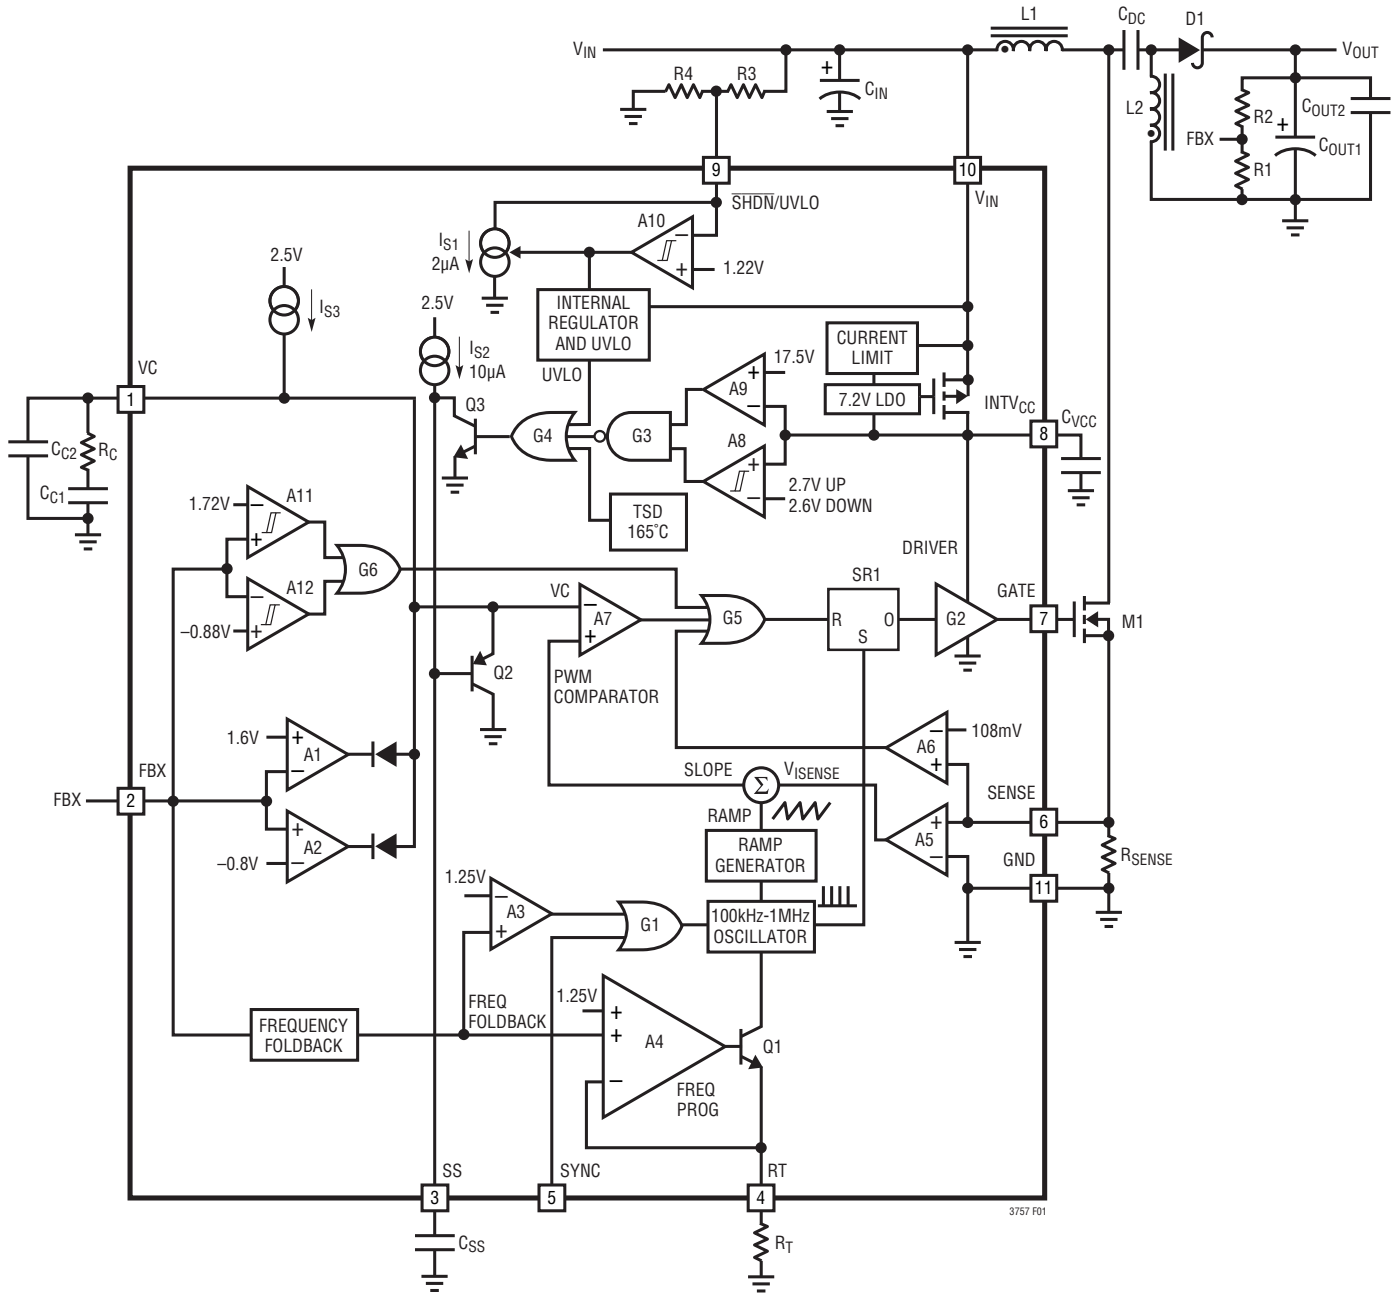

Figure 1. LT3757 Block Diagram Working as a SEPIC Converter
The LT3757 uses a fixed frequency, current mode control scheme to provide excellent line and load regulation. Operation can be best understood by referring to the Block Diagram in Figure 1.
The LT3757 is capable of generating either positive or negative output voltage with a single FBX pin. It can be configured as a boost, flyback or SEPIC converter to generate positive output voltage, or as an inverting converter to generate negative output voltage. When configured as a SEPIC converter, as shown in Figure 1, the FBX pin is pulled up to the internal bias voltage of 1.6V by a voltage divider (R1 and R2) connected from  $V_{OUT}$  to GND. Comparator A2 becomes inactive and comparator A1 performs the inverting amplification from FBX to VC. When the LT3757 is in an inverting configuration, the FBX pin
The purpose of this current is to allow the user to program the rising hysteresis. The Block Diagram of the comparator and the external resistors is shown in Figure 1. The typical falling threshold voltage and rising threshold voltage can be calculated by the following equations:
An internal, low dropout (LDO) voltage regulator produces the 7.2V INTVCC supply which powers the gate driver, as shown in Figure 1. If a low input voltage operation is expected (e.g., supplying power from a lithium-ion battery or a 3.3V logic supply), low threshold MOSFETs should be used. The LT3757 contains an undervoltage lockout comparator A8 and an overvoltage lockout comparator A9 for the INTVCC supply. The INTVCC undervoltage (UV) threshold is 2.7V (typical), with 100mV hysteresis, to ensure that the MOSFETs have sufficient gate drive voltage before turning on. The logic circuitry within the LT3757 is also powered from the internal INTVCC supply.
The choice of operating frequency may be determined by on-chip power dissipation, otherwise it is a trade-off between efficiency and component size. Low frequency operation improves efficiency by reducing gate drive current and MOSFET and diode switching losses. However, lower frequency operation requires a physically larger inductor. Switching frequency also has implications for loop compensation. The LT3757 uses a constant-frequency architecture that can be programmed over a 100kHz to 1000kHz range with a single external resistor from the RT pin to ground, as shown in Figure 1. The RT pin must have an external resistor to GND for proper operation of the LT3757. A table for selecting the value of RT for a given operating frequency is shown in Table 1.
The output voltage ( $V_{OUT}$ ) is set by a resistor divider, as shown in Figure 1. The positive and negative  $V_{OUT}$  are set by the following equations:
The LT3757 addresses this mechanism with the SS pin. As shown in Figure 1, the SS pin reduces the power MOSFET current by pulling down the VC pin through Q2. In this way the SS allows the output capacitor to charge gradually toward its final value while limiting the start-up peak currents. The typical start-up waveforms are shown in the Typical Performance Characteristics section. The inductor current  $I_L$  slewing rate is limited by the soft-start function.
component values and the operating conditions (including the input voltage, load current, etc.). To compensate the feedback loop of the LT3757, a series resistor-capacitor network is usually connected from the VC pin to GND. Figure 1 shows the typical VC compensation network. For most applications, the capacitor should be in the range of 470pF to 22nF, and the resistor should be in the range of 5k to 50k. A small capacitor is often connected in parallel with the RC compensation network to attenuate the  $V_C$  voltage ripple induced from the output voltage ripple through the internal error amplifier. The parallel capacitor usually ranges in value from 10pF to 100pF. A practical approach to design the compensation network is to start with one of the circuits in this data sheet that is similar to your application, and tune the compensation network to optimize the performance. Stability should then be checked across all operating conditions, including load current, input voltage and temperature.